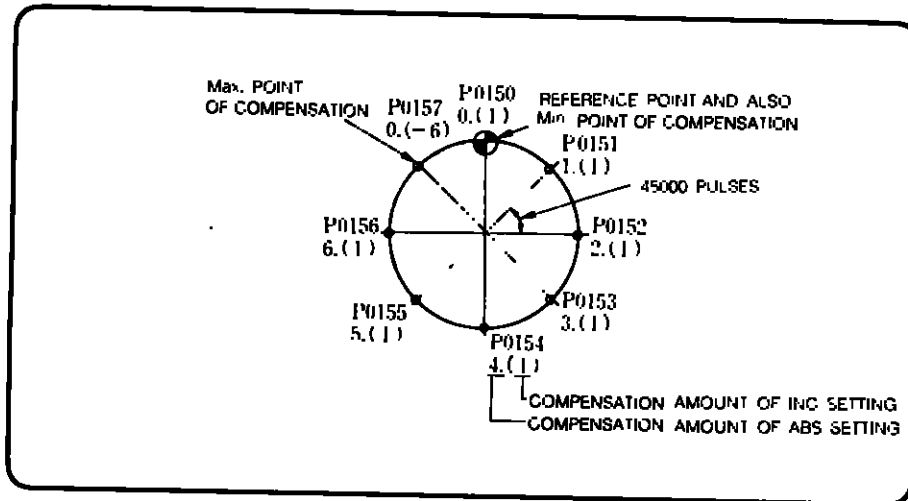

Fig. 3.6.14 Compensation Interval
- ③ Set each parameter as shownn in Fig. 3.6.15, if the compensation interval is 45000 pulses (8 divisions per rotation) as shown in Fig.3.6.14.